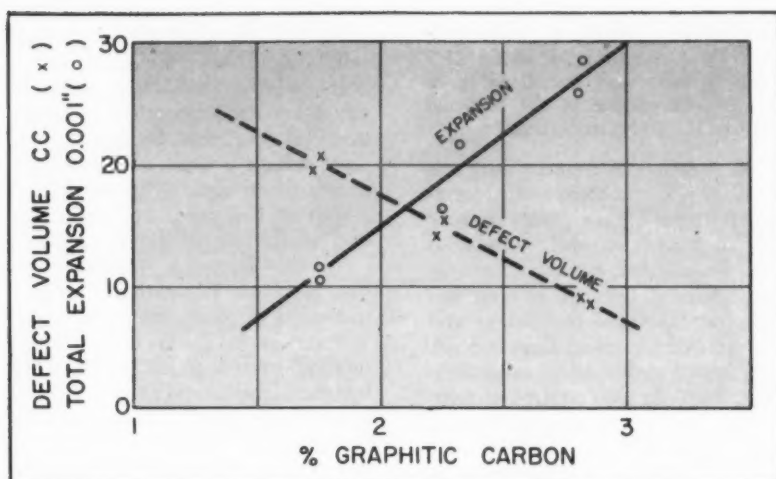

Fig. 5 . . If the graphitic carbon content of the iron is increased, the mold wall will move without increasing the shrinkage cavity.
Graphitic carbon in gray iron increases the amount of mold wall movement because of the more mushy type of solidification. Increased eutectic expansion force against the mold wall also brings about a greater tendency to follow the mold wall. The amount of this expansion has been plotted (9) in Fig. 5 to show the quantitative effect of increasing graphitic carbon content on total expansion.